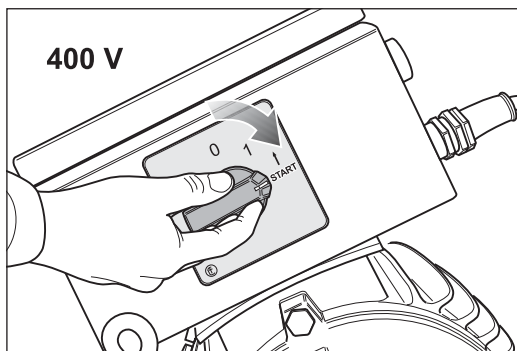
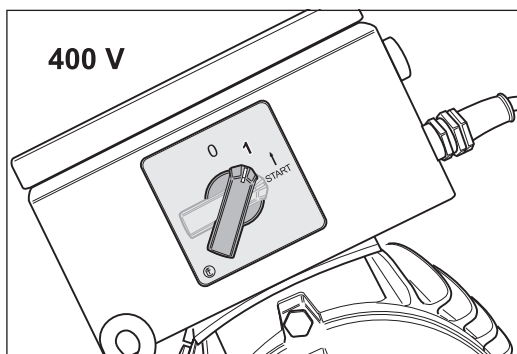

Fig. 19 To switch on the machine turn the switch button at the motor to position -START-.
Fig. 20 Release the switch button. The button turns automatically in position -1-.
- 2 To switch on the machine turn the switch button at the motor to position -START- (Fig. 19) and release the switch button after the motor has reached its full speed. The switch button will then automatically move to position -1- (Fig. 20).